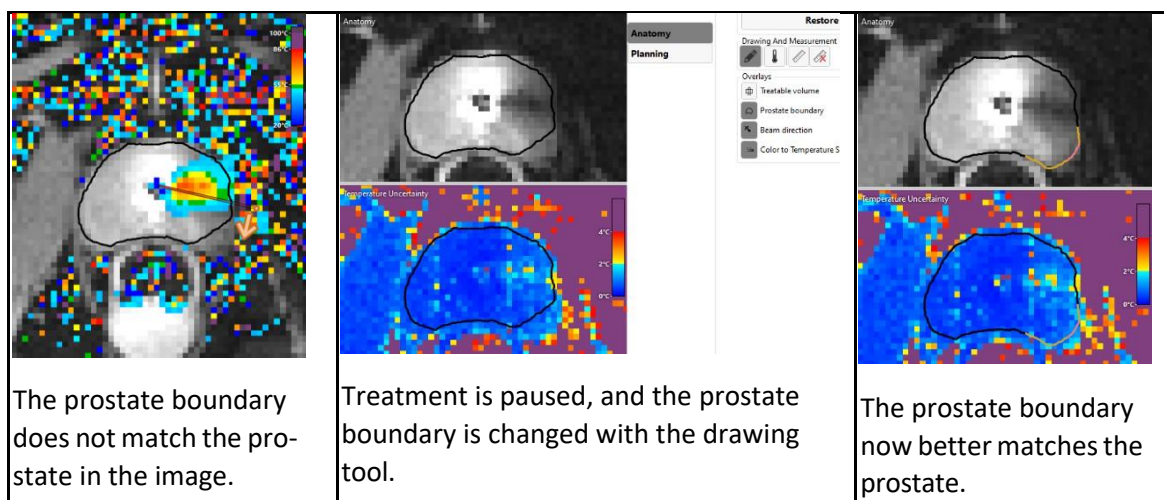

Figure 55: Editing the prostate boundary
3. Click the drawing tool. The TDC displays a new pane showing the prostate boundary contour and the temperature uncertainty for the selected slice (*Figure 55*).